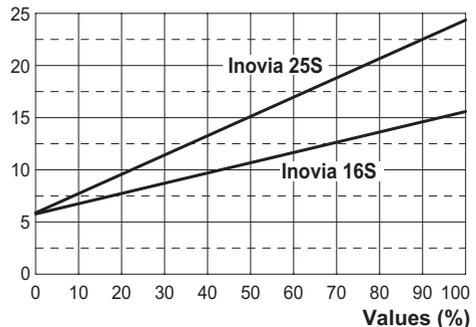

Fig. 7.41
Refer to Fig. 7.41 and determine the correct Value appertaining to the output required for the central heating requirement.
• It is possible to modify parameter using keys 9 or 10 (Fig. 7.43) (Refer to Fig. 7.41 and determine the correct Value appertaining to the output required for the central heating requirement.).